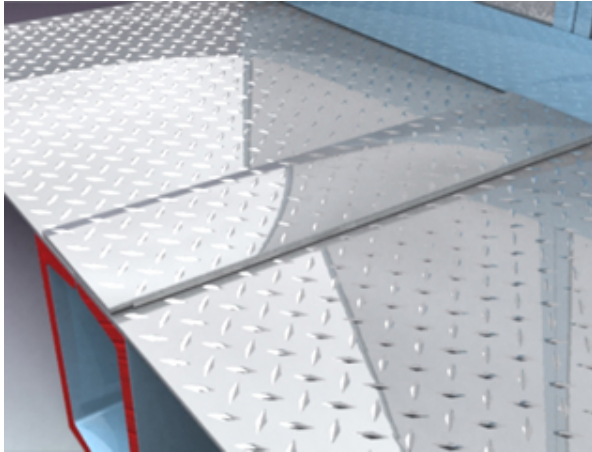

Figure 12: Base Joining Flat Strip Detail.
5) There may be situations, such as in corridors, where flat strips or T-strips are provided instead. Continuously weld flat strips to floor (ref. Figure 12) and continuously caulk T-strips (ref. Figure 13).